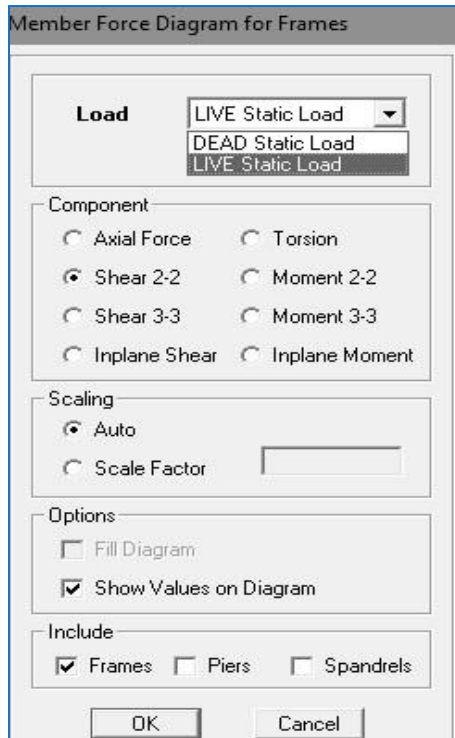

Fig: 2.10
6.2. **Maximum Shear force on beam AB:** Go to display → Show Member Forces/Stress Diagram → Frame/Pier/Spandrel Forces... → Select Load (Live/Dead etc.) → Shear 2-2 → Click on Show Values on Diagram → OK → Select the Beam by click (from the display elevation view) → press mouse right button and find out your desirable values like vertical force, horizontal force and moment. (Fig: 2.10 and 2.11)